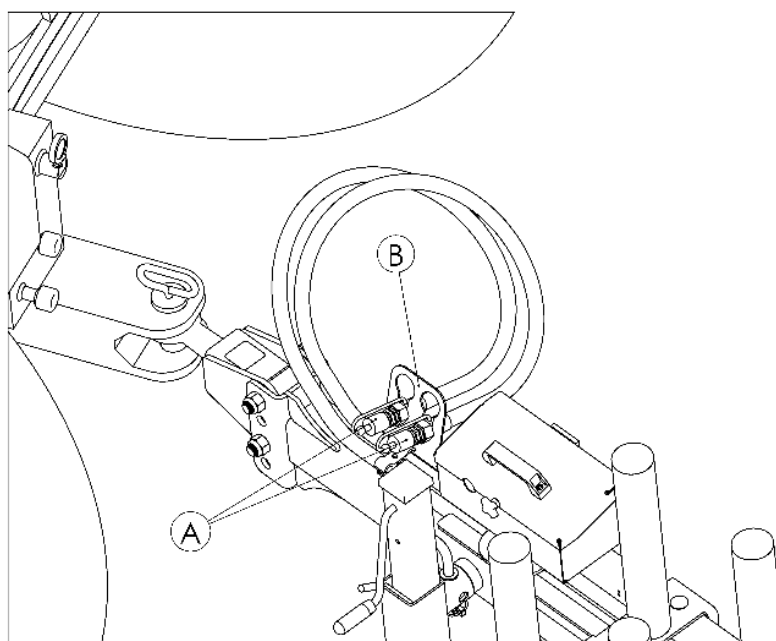

Figure 8. Hydraulic conductor clamp
- Disconnect the power hydraulics system and protect the hydraulic hoses in their clamps on the wrapper drawbar (Fig. 8- B).
Hydraulic connections must be always kept clean. After use reinstall plastic cover supplied at purchasing the machine (Fig. 8- A).